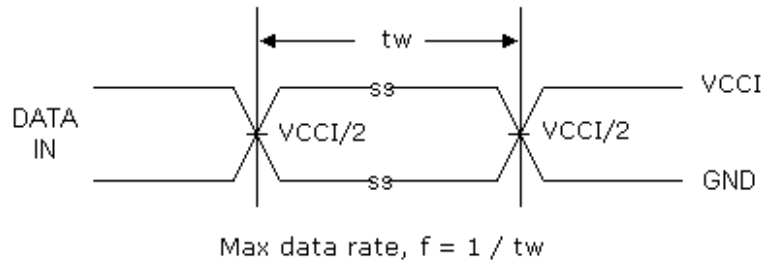

Figure 10. Maximum Data Rate
16. Maximum data rate is specified in megabits per second with all outputs switching, (see Figure 10). It is equivalent to two times the F-toggle frequency, specified in megahertz. For example, 100Mbps is equivalent to 50MHz.